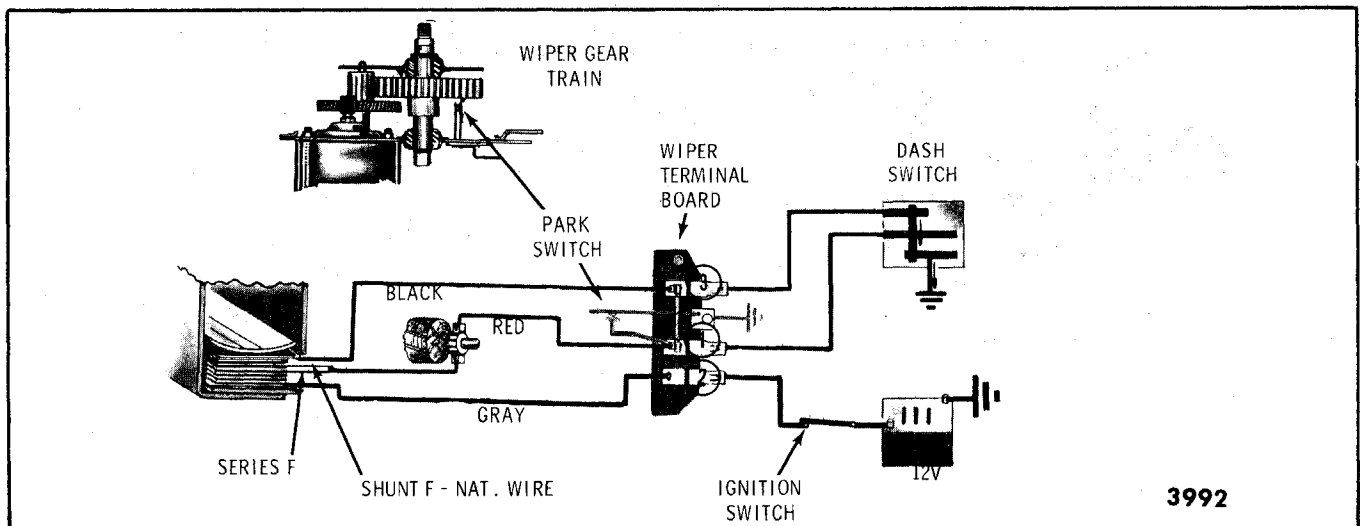

Fig. 2-3-LO Speed Circuit
Turning the wiper switch to the LO speed position completes the circuits from wiper terminals 1 and 3 to ground. Current then flows from the battery through wiper terminal no. 2 through the series field and divides: (1) part passes through the armature to ground through wiper terminal no. 1 to the wiper switch and (2) part passes through the shunt field to ground through wiper terminal no. 3 to the wiper switch (Fig. 2-3).
DIAGNOSIS CHART - WIPER ON CAR - Figures 2-3, 2-4, and 2-5